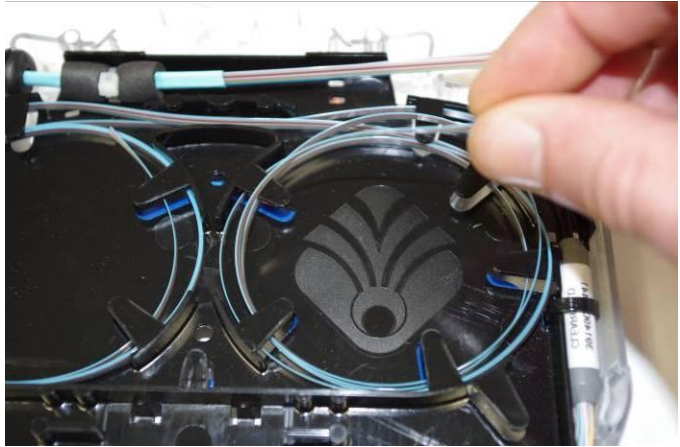

Figure 3
- Step 3:** Carefully, remove the ribbon pigtails from each slack storage loop (**Figure 3**). Then mark transition **A** on the left with a small piece of tape. This will be spliced to the other fiber marked with tape.